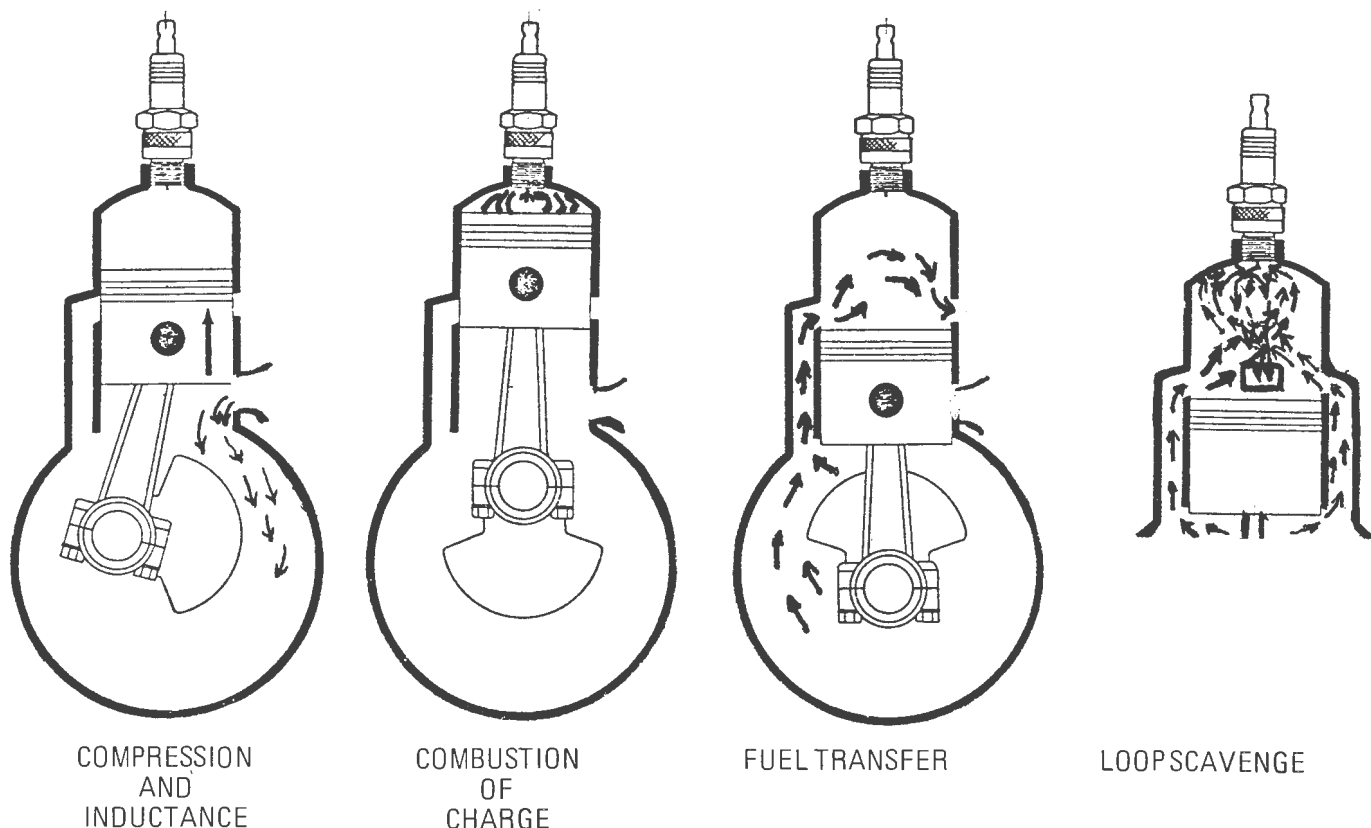

FIGURE 2-1 TWO STROKE ENGINE: OPERATING PRINCIPLES
2.2 SEQUENCE OF OPERATION (see Figure 2-1)
- d. Continuing downward, the piston will now uncover the two transfer ports and close the carburetor inlet port. The mixture in the crankcase and lower part of the cylinder is displaced by the piston and conducted through the transfer ducts to the combustion chamber above the piston. The fresh charge, entering through the two transfer ports will form a loop (see Figure 2-1), thus scavenging the cylinder of burned gases.